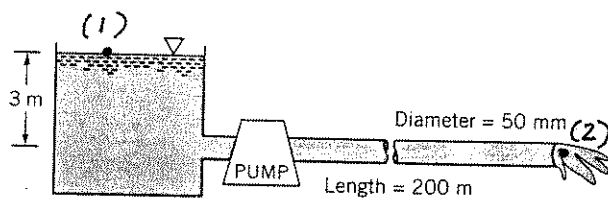

FIGURE P12.30
12.30 Water at 40 °C is pumped from an open tank through 200 m of 50-mm-diameter smooth horizontal pipe as shown in Fig. P12.30 and discharges into the atmosphere with a velocity of 3 m/s. Minor losses are negligible. (a) If the efficiency of the pump is 70%, how much power is being supplied to the pump? (b) What is the NPSH_A at the pump inlet? Neglect losses in the short section of pipe connecting the pump to the tank. Assume standard atmospheric pressure.